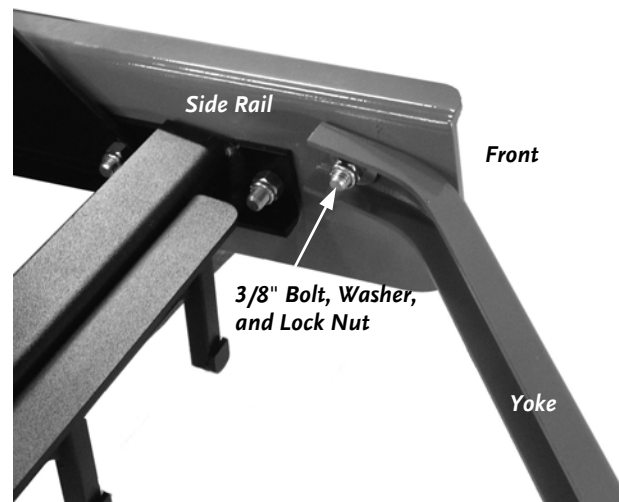

Figure 10
1. Position the Yoke in front of the DR POWER GRADER and inside of the Side Rails (**Figure 10**).
2. Align the Holes in the end of the Yoke with the Holes in the Side Rails and attach each side of the Yoke to the Side Rails using a 3/8"-16 x 1-1/2" Bolt, 3/8" Flat Washer and 3/8" Lock Nut (**Figure 10**). Do not tighten at this time